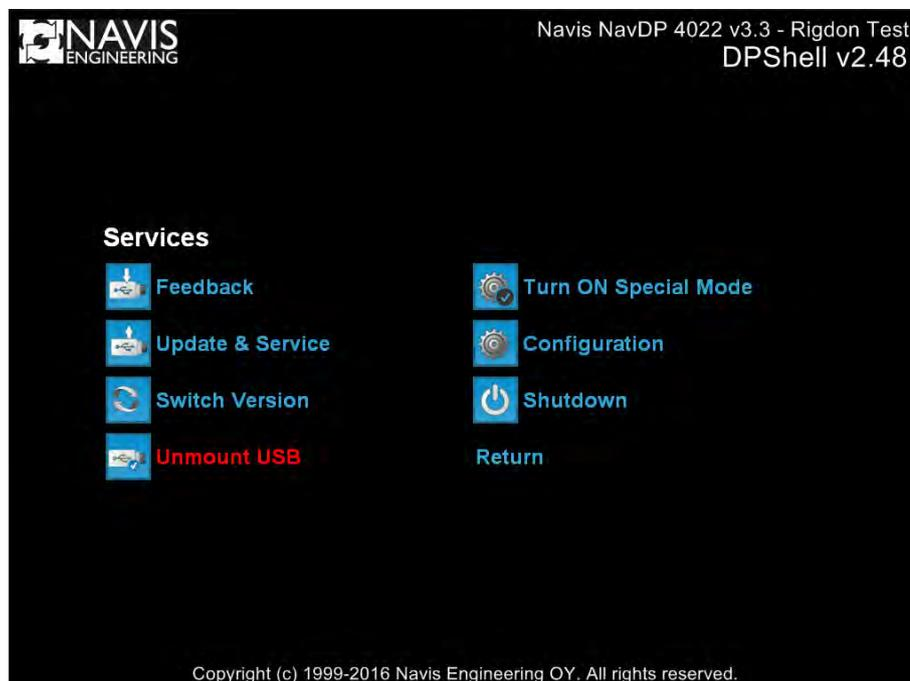

Figure G.3: DPShell Service menu
1.5. When you enter a correct password service menu will appear (see Figure G.3).
1.1. DP/IJ control computer is in service menu (see Figure G.3).